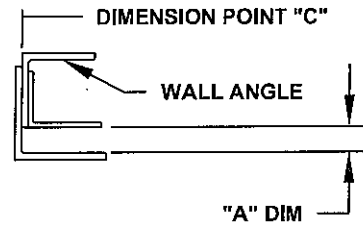

FIG 1
- 2) For typical installation for Type I and II (See FIG 1) guide assemblies, Dimension point "C" is centered around jamb opening - (if side room permits) - if there are questions check job construction drawings (if available).